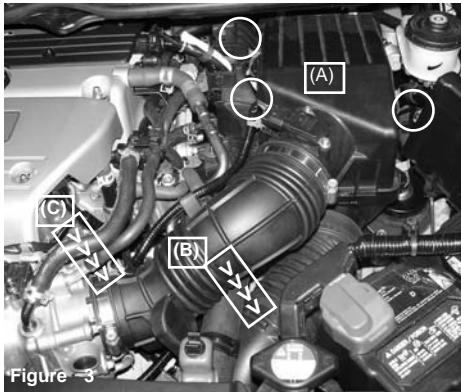

Figure 3
Removing the PCV line- Depress the clamp and remove the 17mm PCV hard pipe and hose from the crank case port (A). As shown in figure 3, the hard pipe was unplugged from the air intake duct (B).